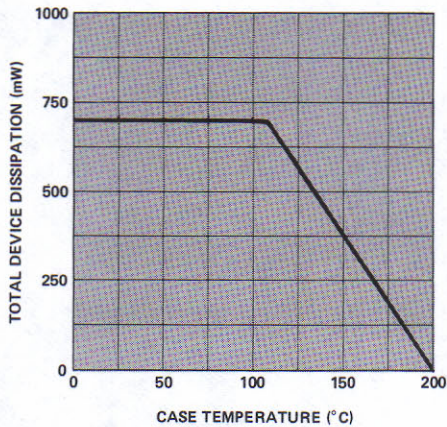

Figure 7. Power Dissipation Curve for $\theta_{jc} = 125^\circ\text{C/W}$, $T_{j\text{MAX}} = 200^\circ\text{C}$.
3. See Figure 7 for derating conditions.